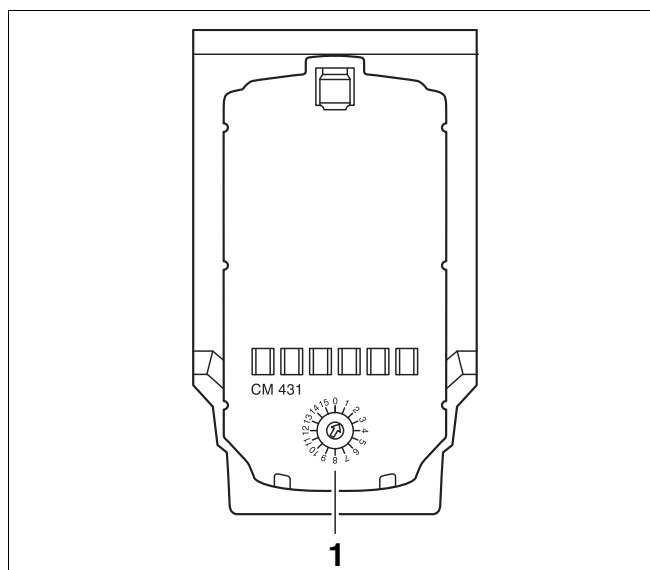

Fig. 5 Address settings
Address settings (→ Fig. 5, [1]) for the Logamatic 4323 control unit are made on the CM431 module (behind the MEC2 programming unit).
- You can now set the control unit address with a screwdriver (→ Fig. 5).